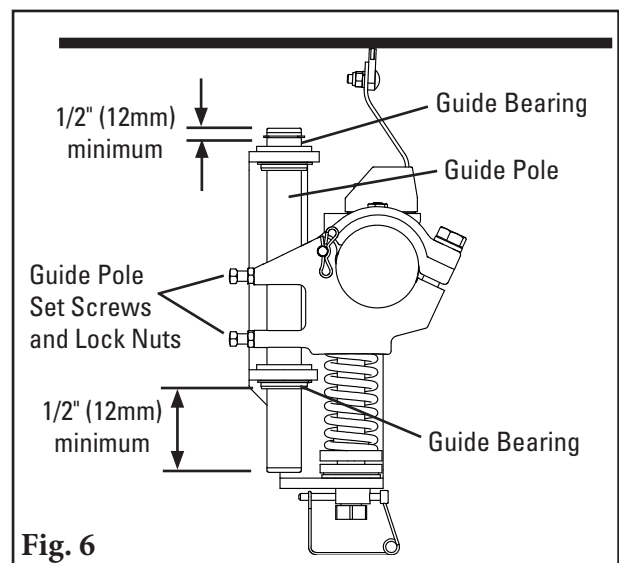

Fig. 6
6. **Secure guide poles.** Ensure the ends of the guide pole extend at least 13mm) outside top and bottom guide bearings. If adjustment is necessary, loosen guide pole set screws and lock nuts, then tap guide pole up or down. Tighten guide pole set screws and lock nuts (Fig. 6).